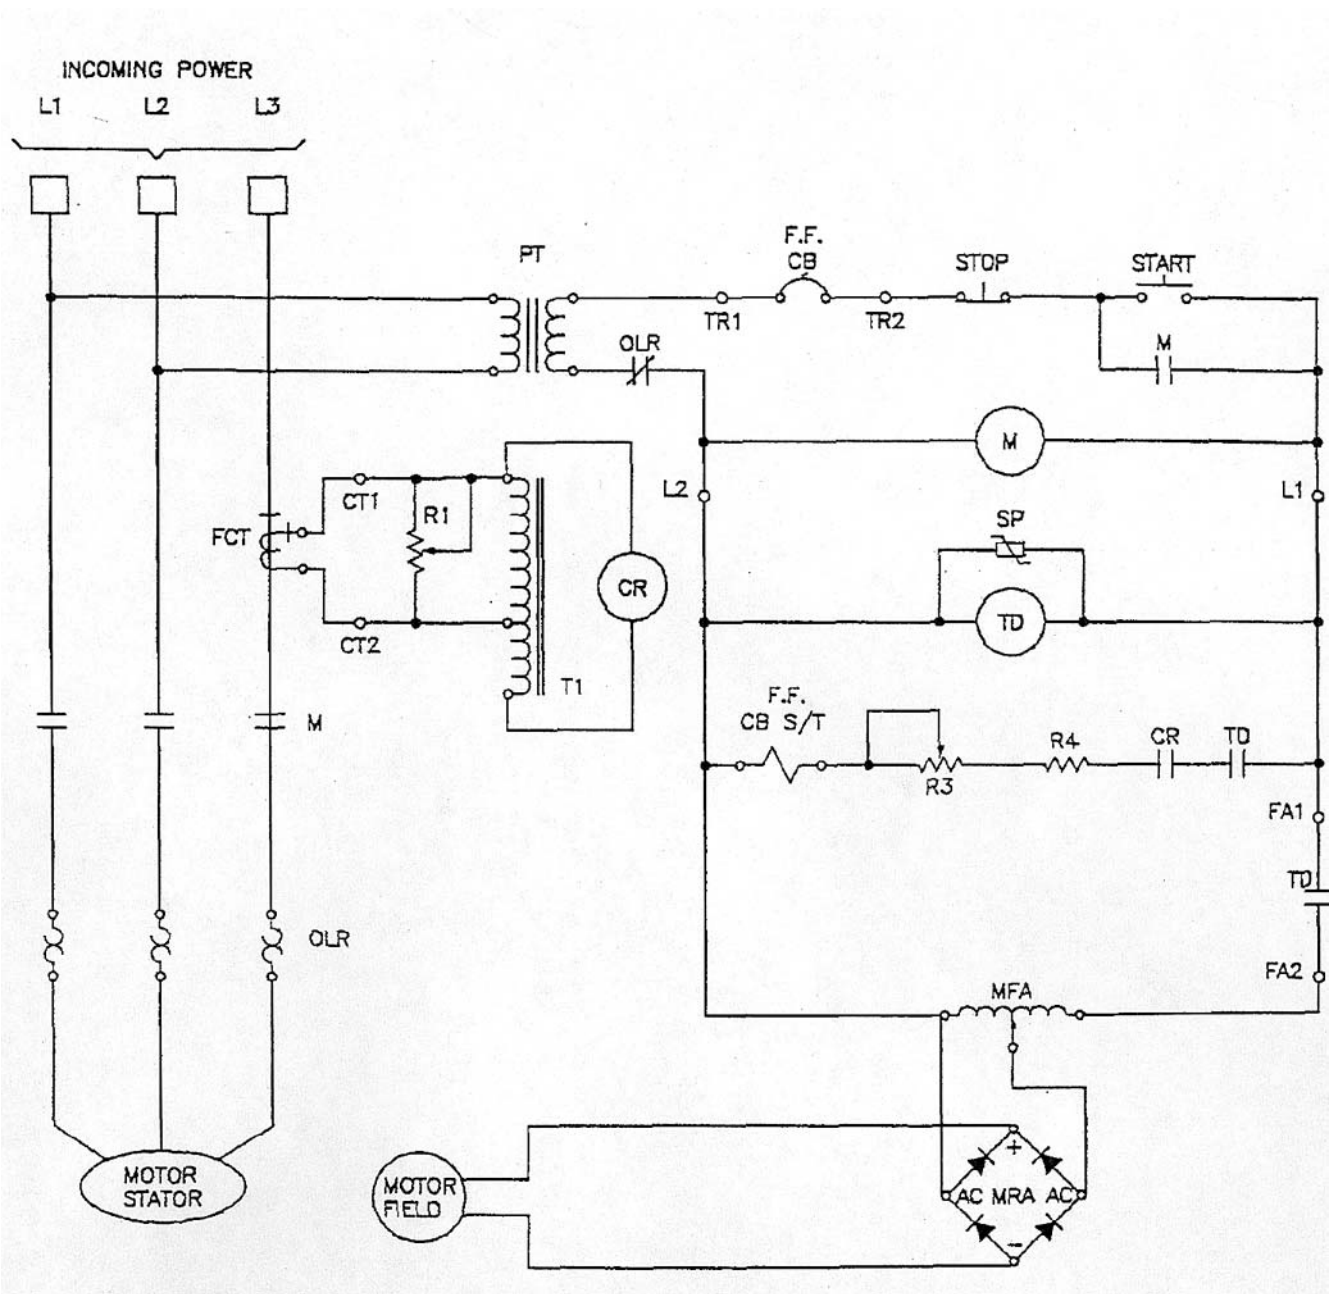

Figure 2: Connection diagram
Refer to Figure 2 for a connection diagram.
Refer to Figures. 2 and 3 for a typical circuit. When the motor start button is pressed, the motor starter will be energized and power will be applied to terminals L1 and L2 of the field failure and out-of-step protection assembly, energizing timer TD. Due to the starting current of the motor, relay CR will energize, and its contact will close, but will not complete a circuit to the trip coil of the circuit breaker (CB) until the timing cycle of TD is completed and its contacts close. Normally, the motor starting current surge will have subsided, opening the contacts of CR before the contacts of TD close. When TD's contacts do close, power will be applied to the motor field circuit, and the motor will operate normally.